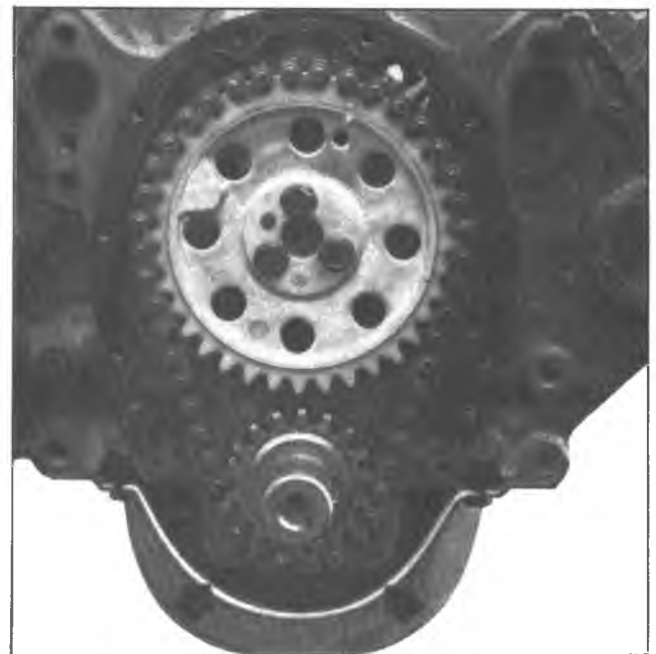

Fig. 1R—Areas to Apply Front Cover Sealant
3. Apply a 1/8" bead of silicone rubber sealer, part number 1051435 (or equivalent) to the joint formed at the oil pan and cylinder block, as well as the entire oil pan front lip (fig. 1R).